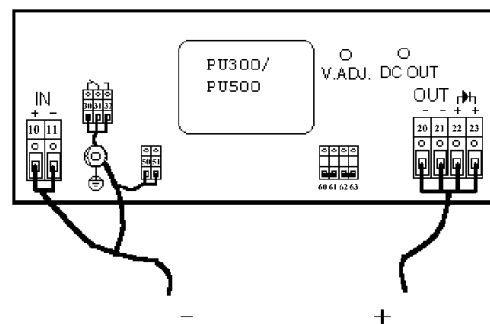

Figure 7. Output to case isolation voltage test.
4. Connect your isolation tester between output and case. See *Figure 7*. Raise the voltage of the isolation tester from 0 to 2000Vd.c. Check that the leakage current does not exceed 5 $\mu$ A. The voltage should not be applied for more than a few seconds or the Y-capacitors might be damaged.